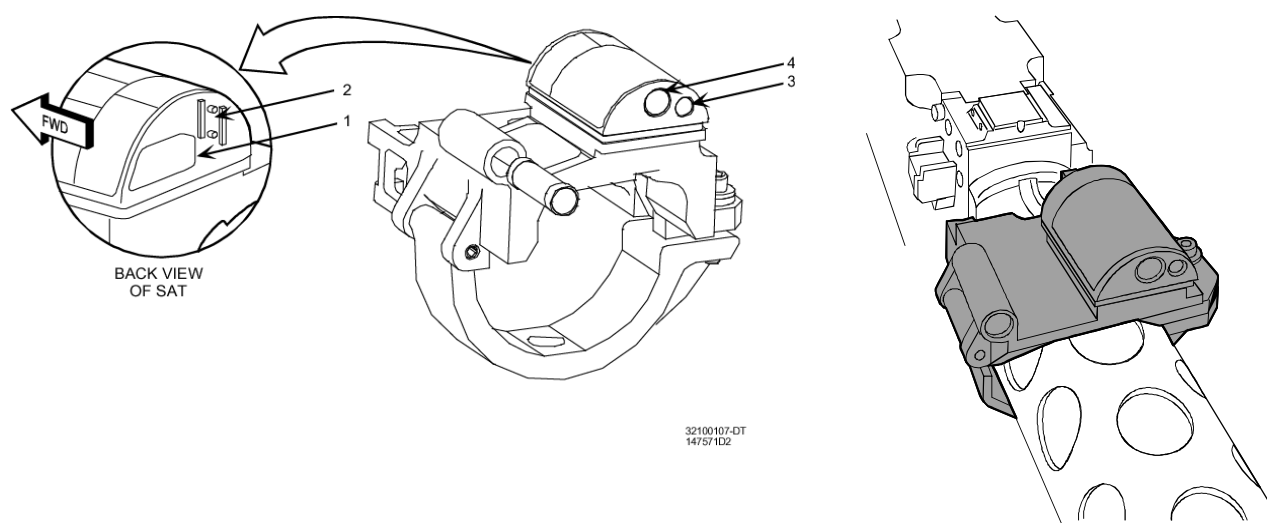

Figure 2-10. M2 Small Arms Transmitter (SAT).
2.3.2 Installation of MILES 2000 on M113 (M577). (See Figures 2-10 and 2-11.)
- a. Remove the SAT from the transit case. The SAT and clamp are one (1) unit. Make sure the SAT is clean and dry, and not cracked or broken.
- e. Slide the SAT over the barrel of the M2 and around the cooling jacket, butting up against the breech block. Tighten the SAT socket head capscrews equally until finger tight. (See Figure 2-10.)